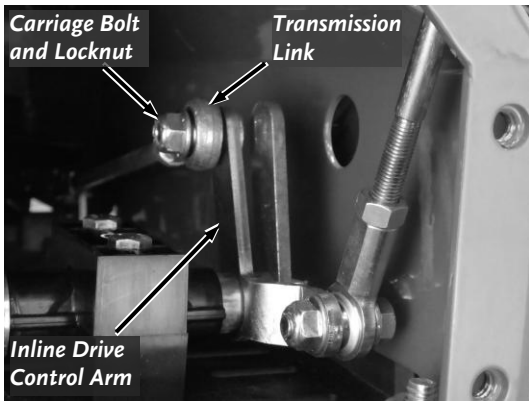

Figure 59
5. Move the Transmission Link to the left Control Arm and secure with the Carriage Bolt and Locknut using a 1/2" Socket (**Figure 59**).